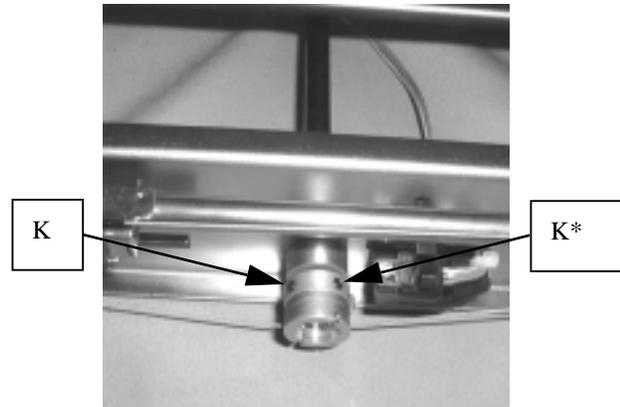
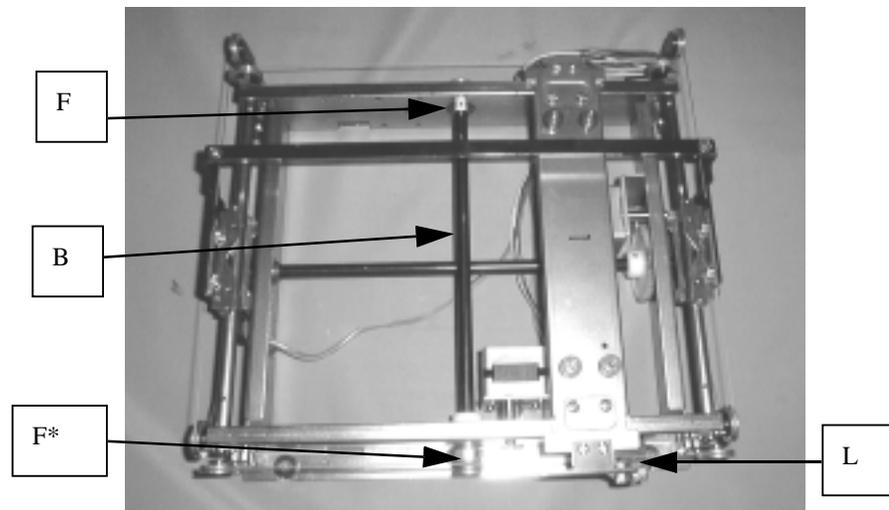

FIGURE 16-3
FIGURE 16-6
6. Draw pulley (F) on the sensor (L) side shown in Fig.16-6 after loosening socket screws (K)(K\*). (K screw is a WP screw.) Fig.16-3.
10. Set the opposite cut (P\*) to meet the cut (P) of the pulley as shown in Fig.16-6, and tighten socket screws (K)(K\*), so that the concaved face of pulley (F\*) and shaft end face (B) are positioned face to face.